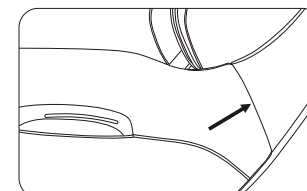

Figure 4
- Insert the back-end of armrest into the decoration cover of upper arm. (figure 4)